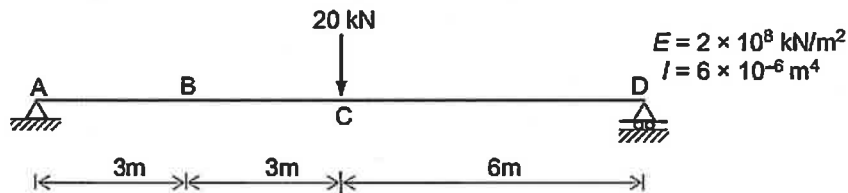

Fig. 7
15. A). Determine the slope at point B of the beam shown in Fig. 7. Also find support reactions and forces developed in the beam. Use the direct stiffness method.